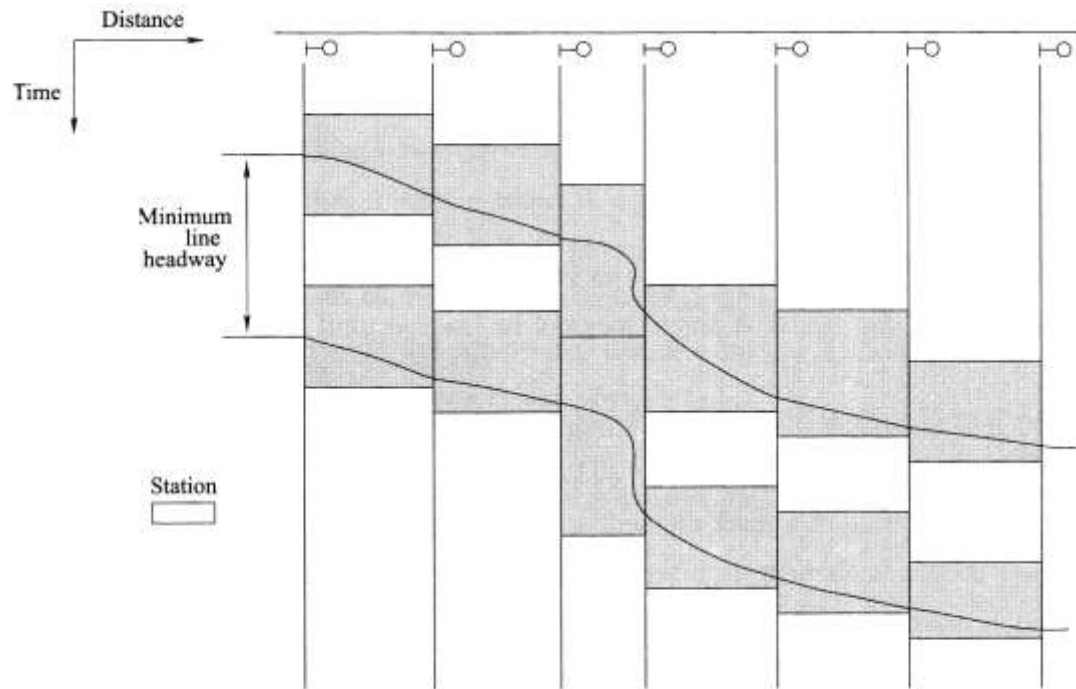

Fig. 3.5 Minimum line headway on an electric city railway
- ◆ On lines where all trains run with **quite the same** speed (typical on electric city railways) the critical block sections are usually the block sections in which the blocking time included the **dwell time** of stops (station sections, Fig.3.5).